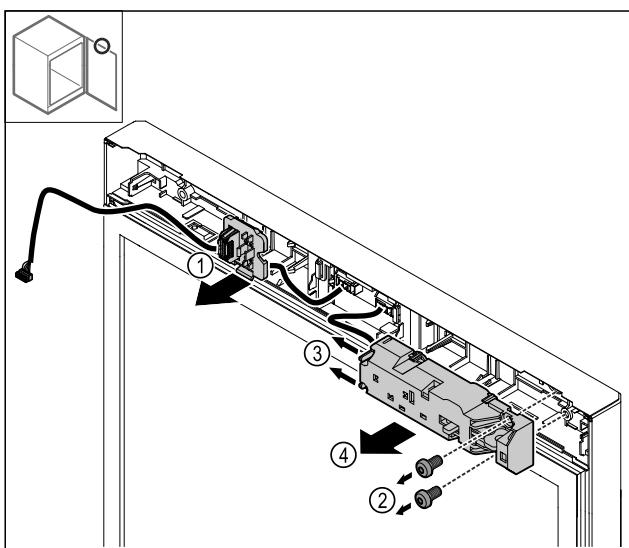

Fig. 28
- ▶ Unlatch the plug holder Fig. 28 (1).
- ▶ Remove the Fig. 28 (2) screws.
- ▶ Push the latching tabs Fig. 28 (3) to the side and remove the electrical lock Fig. 28 (4).